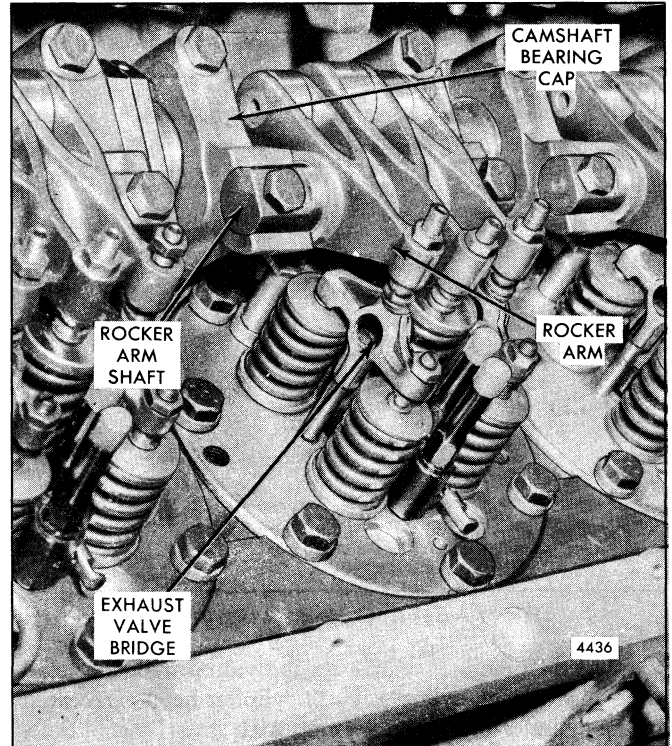

Fig. 3 - Rocker Arm Mechanism
6. Remove the two bolts securing the rocker arm shaft to the camshaft bearing caps and remove the shaft and rocker arm mechanism (Fig. 3).